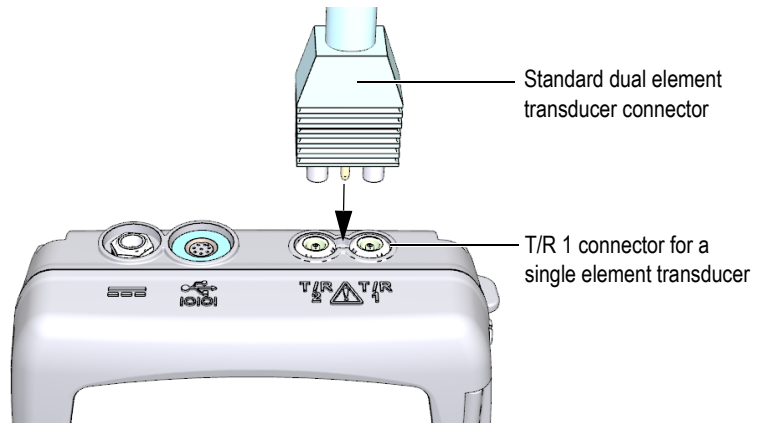

Figure 5-1 Plugging the transducer
1. Plug the transducer into the transducer connector(s) at the top of the 38DL PLUS case (see Figure 5-1 on page 70). Use T/R 1 for a single element transducer.